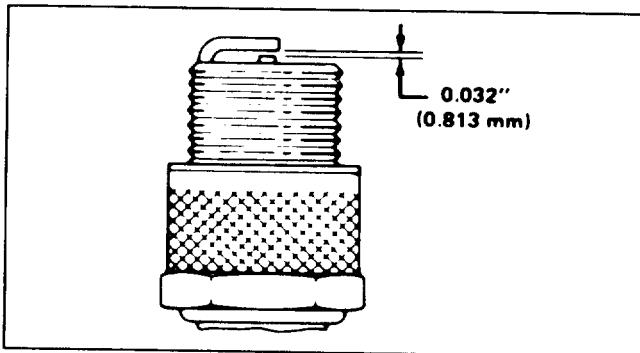

Figure 17
3. INSTALL SPARK PLUG—Set air gap (Fig. 17) between electrodes at .032" (.81 mm). Install plug and tighten to 15 ft-lb (20.4 N·m). If torque wrench is not used, tighten plug firmly. Push wire